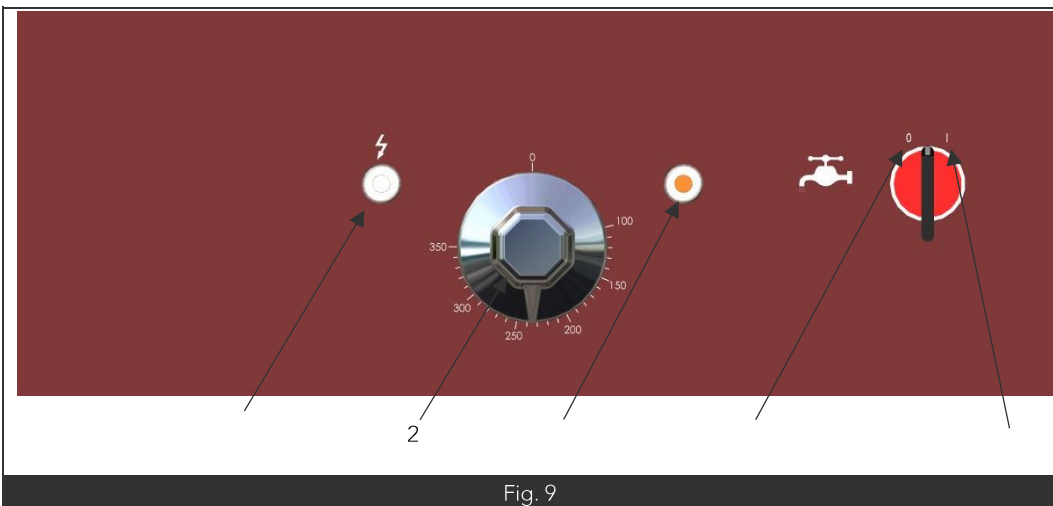

Fig. 9
- With the appliance switched on, the white light is on (Fig. 9 Item 1).
- Move the run-off switch to the On position (Fig. 9 Item 5) to circulate water through the groove around the edge.
- Adjust the temperature of the thermostat using the electric control knob (Fig. 9 Item 2).
- The amber light comes on to indicate that the heating elements are heating (Fig. 9 Item 3) and goes off when they have reached the desired temperature.
- To stop the water run-off, turn the run-off switch to the Off position (Fig. 9 Item 4).